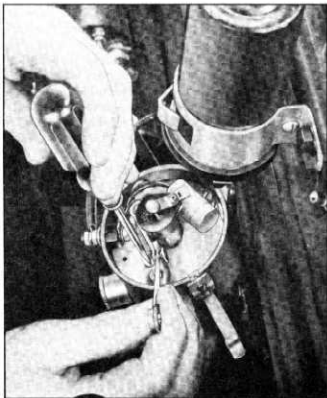

Fig. 37—Adjusting Distributor Points
5. Crank the engine until the distributor point cam follower rests on the peak of the cam. Adjust the point gap (fig. 37) using a feeler gauge. This operation must be performed very accurately because it affects the point dwell or length of time the points remain closed in operation and, in turn, ignition coil performance.